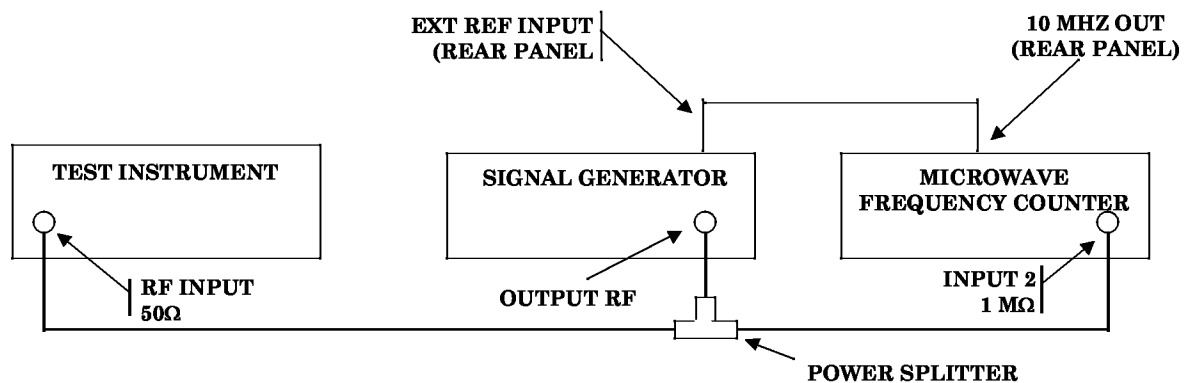

Figure 2. Carrier frequency.
(1) Connect equipment as shown in figure 2.